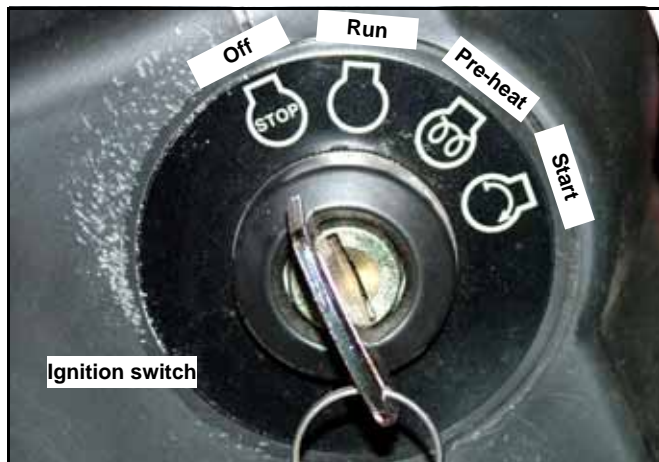

Figure 3-2
- A. **Ignition switch (Figure 3-2)** — A four position switch: off, run, pre-heat and start. With key inserted, rotate it clockwise to “PRE-HEAT” position and the “START” position; release key when engine starts, and switch will automatically return to the “RUN” position. Turning the key to the “RUN” position activates the warning lights and instruments.